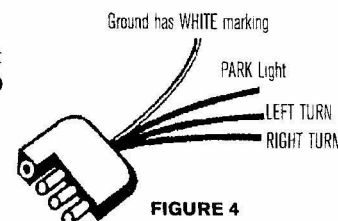

FIGURE 4
2. If your vehicle does not have a trailer light plug, you can clip off the light bar four-pin connector and hard wire the leads directly to the vehicle taillights using the information in Figure 4. The park light lead is the one directly next to the ground.
3. A few vehicles utilize different bulb filaments for stoplight and turn signals. In this case a widely available adapter is required to go from a five-wire system output to a standard four-wire trailer light input. Another option in this case is to connect the left and right wires identified in Figure 4 and connect them to the vehicle brake light wire. If this is done, only the light bar running lights and brake light function will operate and not the turn signals.